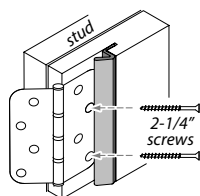

Figure 10
- Once door frame has been adjusted so strings are touching the middle, replace two of the top hinge screws on both door panels with 2 1/4" silver head screws (figure 10). Screw must penetrate actual stud to ensure door does not sag.